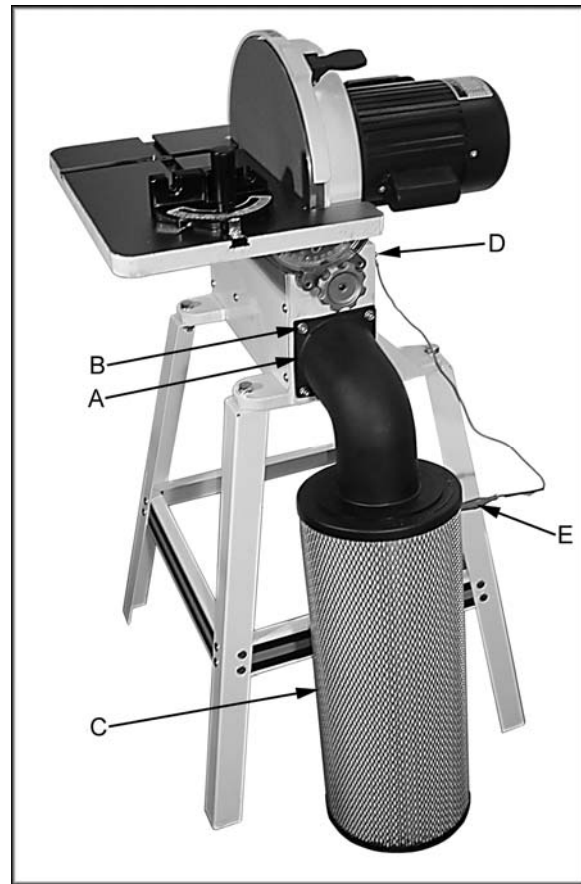

Figure 9
2. Mount the plastic elbow (A, Figure 9) to the sander using the same hardware (B, Figure 9) from the inlet port.
3. Connect the filter (C, Figure 9) to the elbow and turn counter-clockwise so that it locks in place.
4. Remove the screw (D, Figure 9) from the sander base. Attach the end of the grounding wire to the screw and thread back in to the base.
5. Attach the grounding clip (E, Figure 9) to the metal part of the filter. This will prevent static electricity from building up in the filter.
2. Take off the grounding clip and remove the filter (C, Figure 9) by turning clockwise.